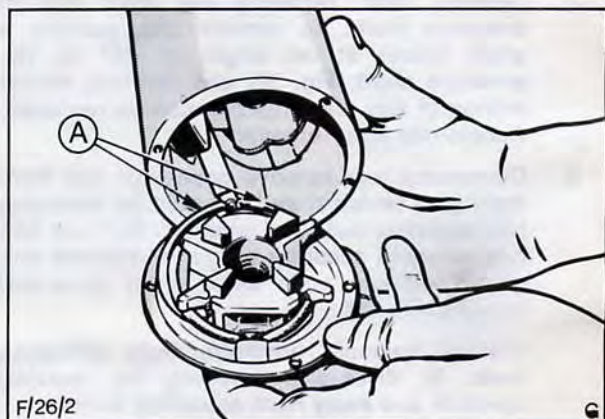

Fig. 33. Position brushes as shown
10. Fit main terminal stud and insulator bush through aperture in commutator end plate. Secure stud with second insulator, washer and nut. Fit two brushes, that are attached to stud, into their respective channels in brush box, Fig. 33.
11. Place two field winding brushes in their respective channels in brush box, Fig. 33, align commutator end plate to yoke and secure plate with four screws. Clip plastic cap onto commutator end plate.